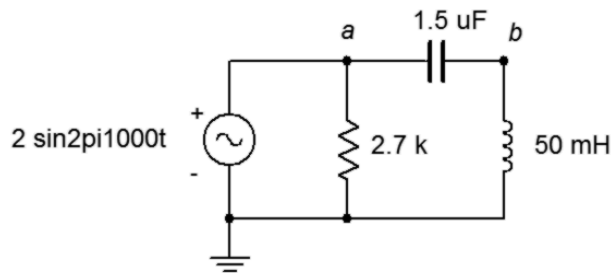

Figure 4.7
7. For the circuit of Figure 4.7, determine the source current and the current through each of the components.
8. For the circuit of Figure 4.7, determine voltages v_{ab} and v_b .
33. Determine a new value for the capacitor in Figure 4.7 such that v_b is 1.5 volts.